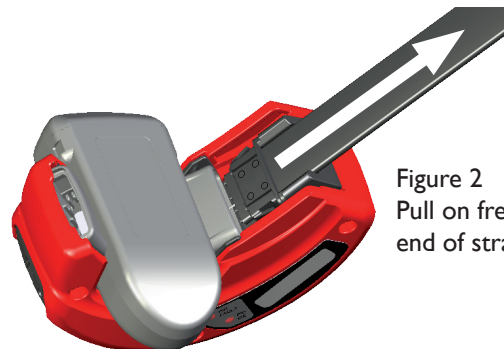

Figure 2
4. Pull on the free end of the strap so that the clip is tight against the tool's jaws. **(Figure 2)**